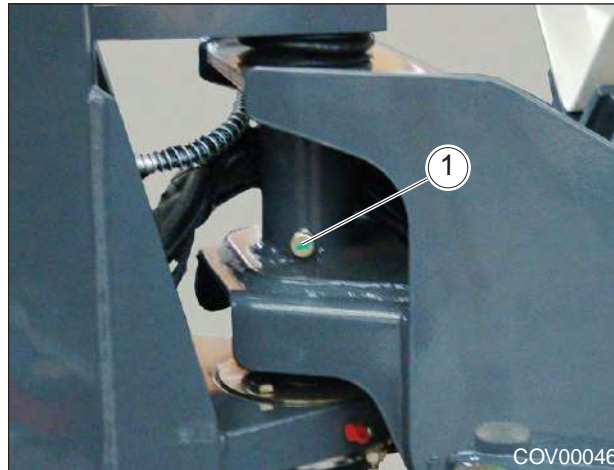

Figure 9.26.- Pivot Lock Screws
**9.26 Centre Pivot****(1) Pivot Lock Screws**
The pivot pin locking screws, Figure 9.26 (1); should be checked periodically and if necessary re-tightened to a torque of 45Nm (33 lbf/ft).